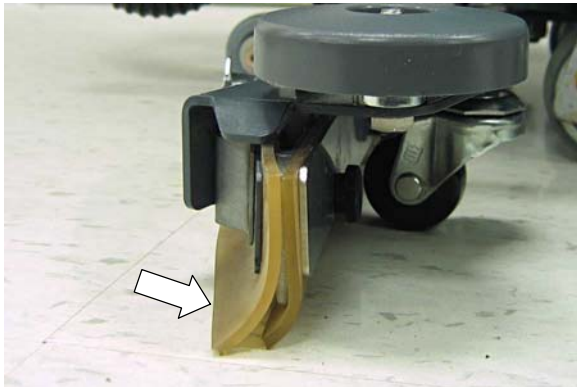

FIG. 5
5. Check the squeegee blades for proper deflection. The blades should deflect as shown (Figure 5).